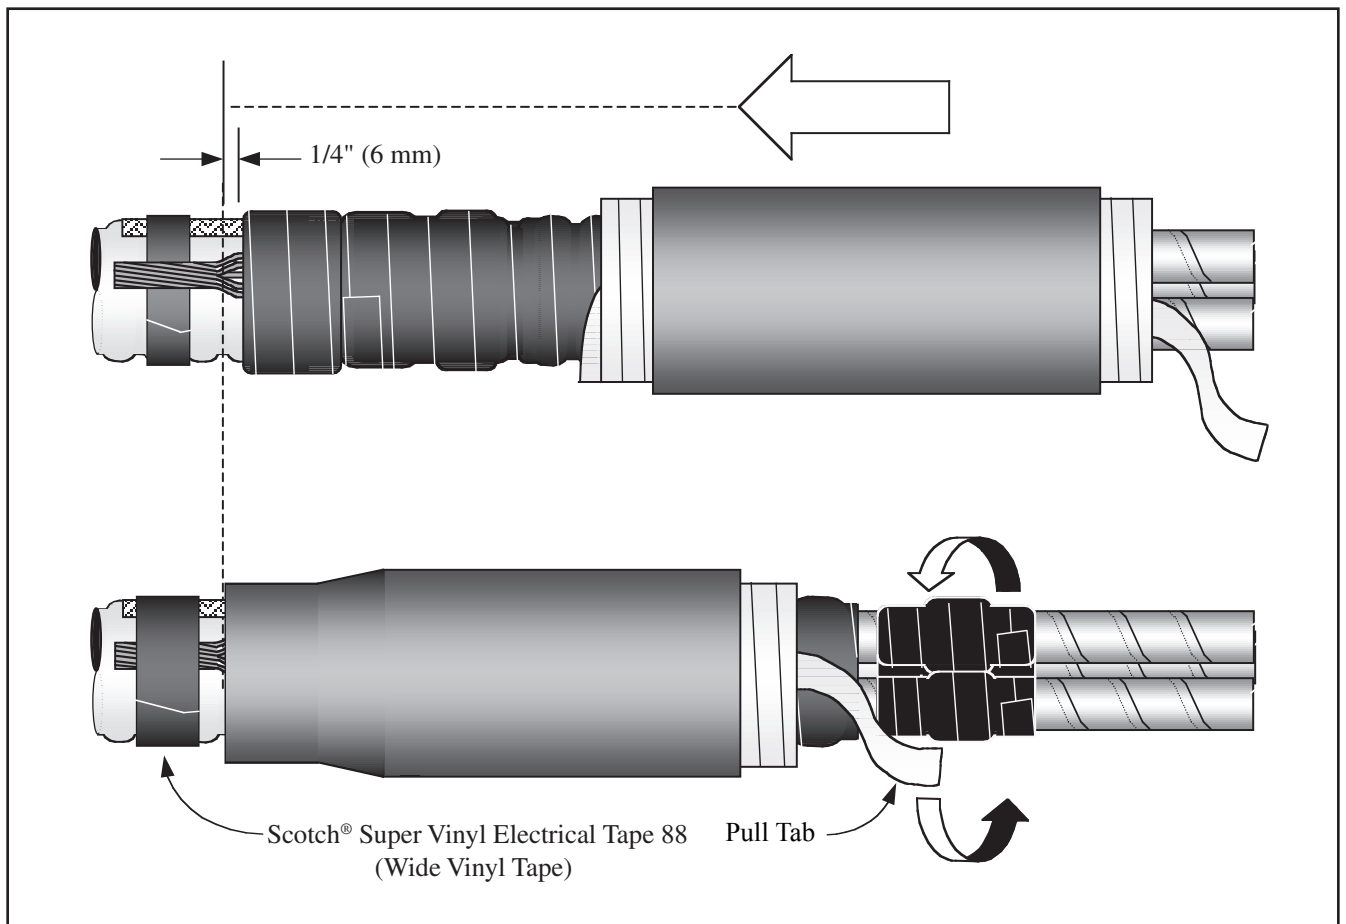

Figure 12
3.16 Install cold shrink jacket extension assembly. Align the jacket seal tube (not the plastic support core) to overlap ground wire seal area by approximately 1/4" (6 mm). To install, pull loose core end, while unwinding counter-clockwise around the cable. (Figure 12).
3.17 Bind cable ground wire and ground braid tail to cable jacket using Scotch® Super Vinyl Electrical Tape 88 (wide vinyl tape) (Figure 12). Apply at least eight tape layers and wrap only to width of tape roll.